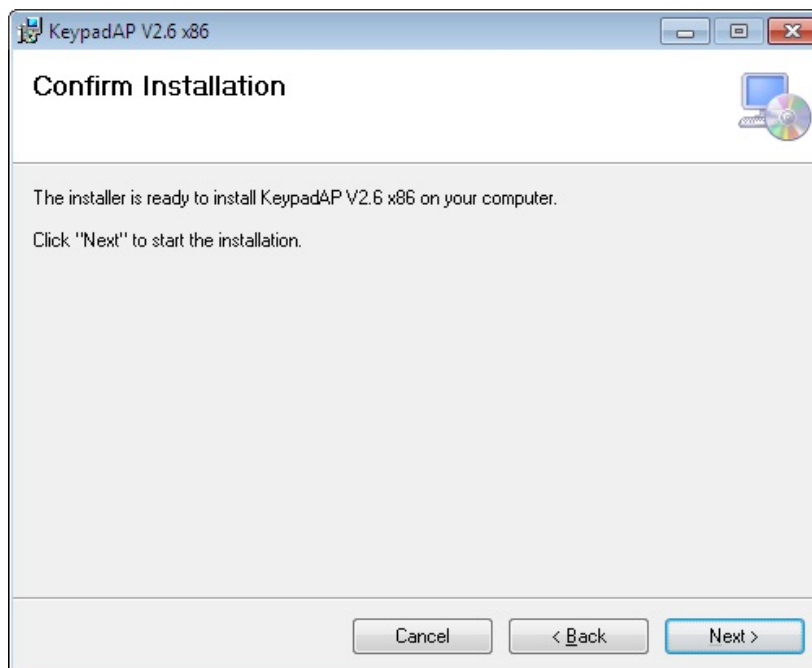

Figure 6-39: Confirm Installation
Step 8: The **Confirm Installation** screen in Figure 6-39 appears. Click **Next** to proceed with the installation.